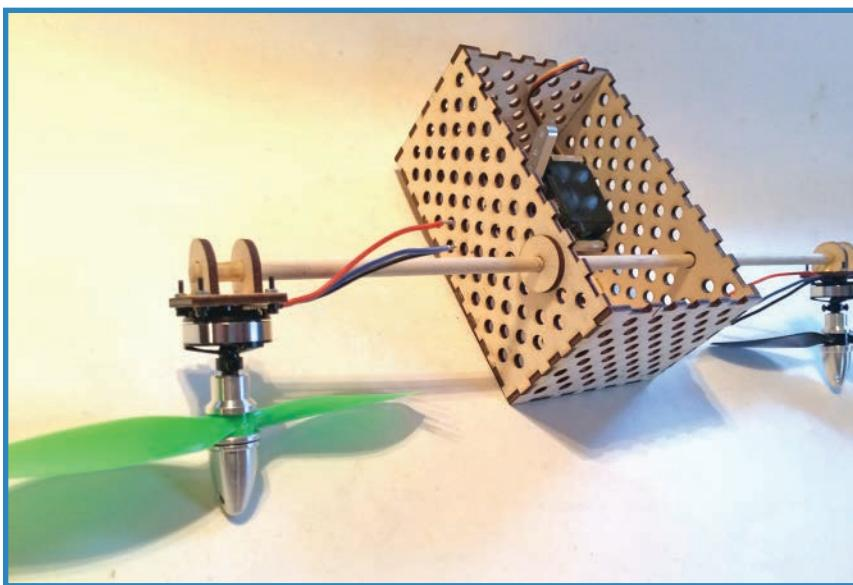

FIGURE 7.12 The propellers and prop adapters are next.
7. Attach the propellers using the propeller adapters, just as you did in Chapter 6. When you're done with this step, the build should look like Figure 7.12.